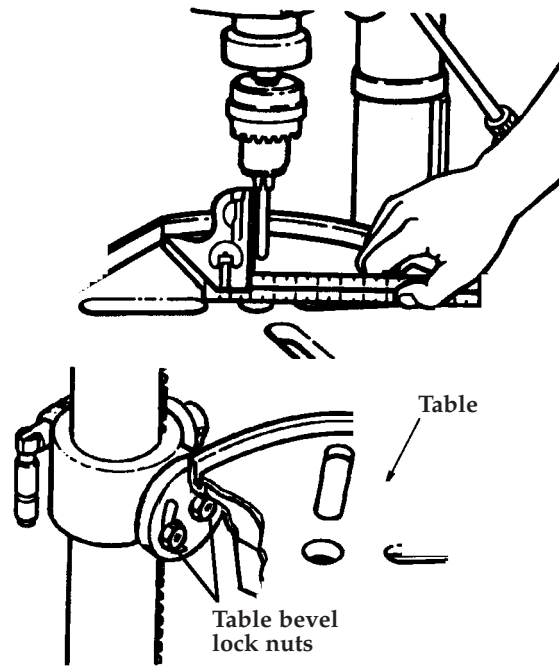

FIGURE 19
2. With the table raised to work height and locked to the column, place the combination square flat on the table beside the rod or drill bit.(Fig.19).